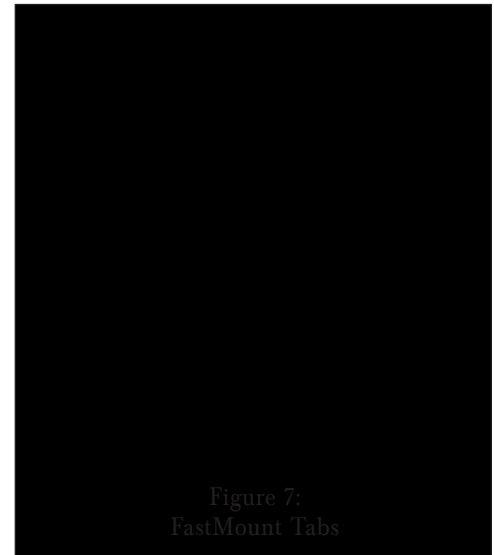

Figure 7: FastMount Tabs
- The FastMount tabs will prevent the speaker from falling out of the mounting hole, allowing the installer to let go of the speaker to pick-up tools or other items (see *Figure 7*).